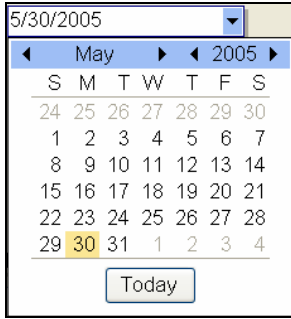

Figure 27.0.6
- Click on the drop down arrow to select a date. This will reveal the calendar to choose a specific date (Figure 27.0.6).